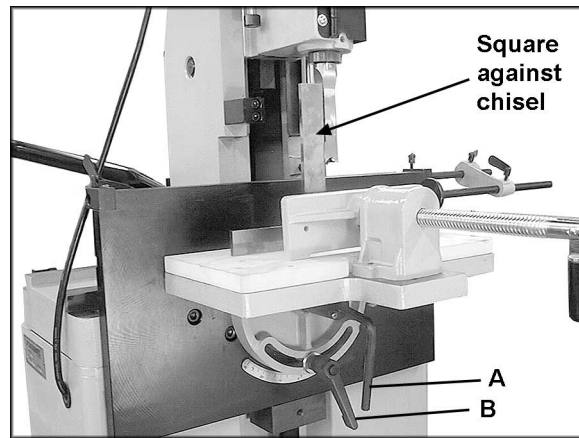

Figure 6
1. Place a square upon the table and against the chisel, as shown in Figure 6.
2. If the table and chisel are not perpendicular to each other, loosen the table's stud with the attached hex wrench (A, Figure 6).
3. Loosen the locking handle (B, Figure 6) and adjust the table until the table and chisel are square.
4. Re-tighten the stud (A, Figure 6) and locking handle (B, Figure 6).
NOTE: The locking handle (B, Figure 6) can be rotated out of the way. Simply lift up on the handle, rotate it on the pin, then release the handle, making sure it seats itself properly on the pin.